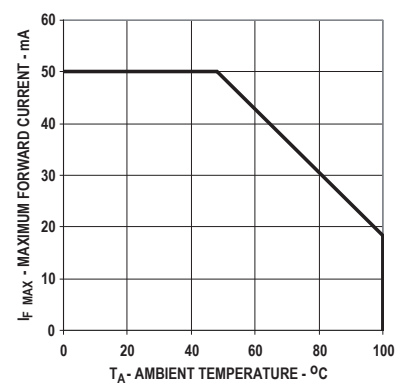
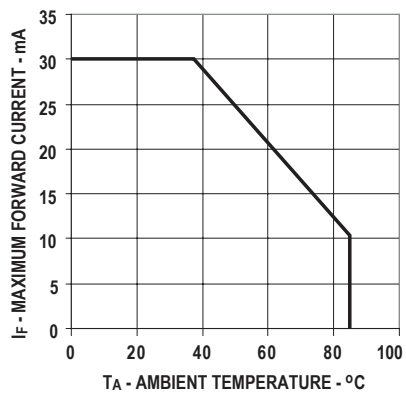

Figure 4. Forward current vs. ambient temperature
Figure 8. Forward current vs. ambient temperature.
- Derate linearly as shown in Figure 4 and Figure 8.